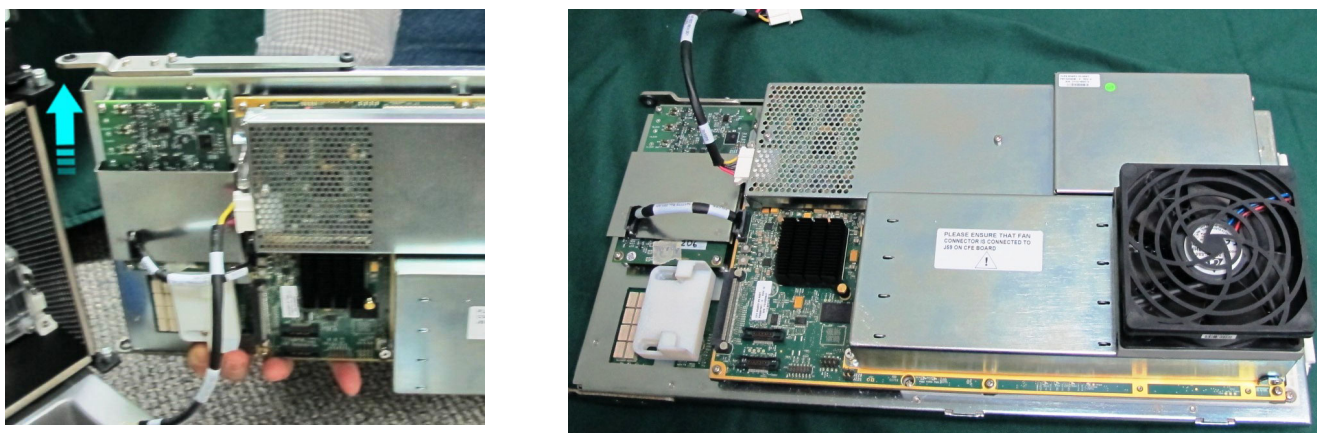

Figure 8-141 Removing the Front End Door Assembly from the Securing Hinge
- 8.) Carefully lift the cage *upwards* to free it from the securing hinge (see Figure 8-141) and place it on a clean, stable surface.
- 1.) Carefully lift the Front End Door Assembly into position on the electronic cage, taking care to mount it properly on the securing hinge - refer to Figure 8-141 on page 8-108.